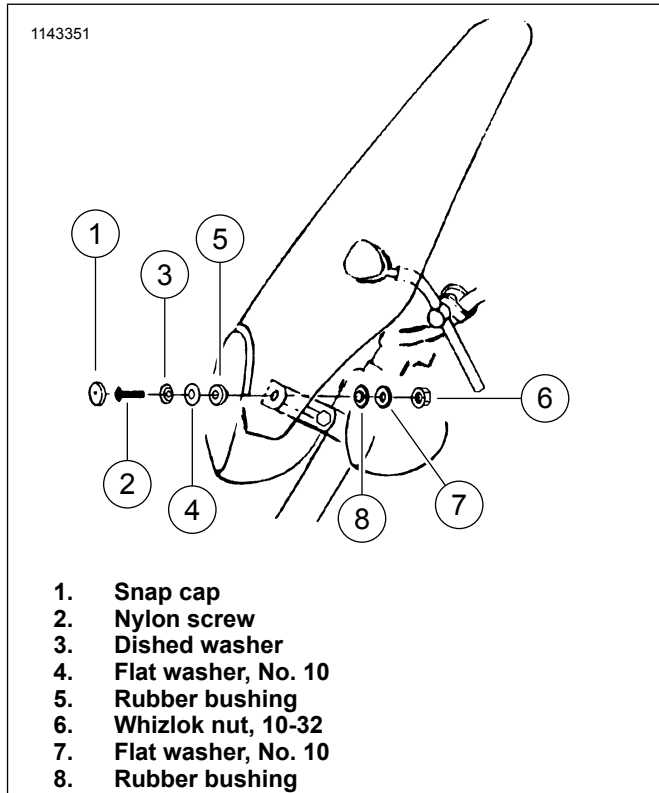

Figure 4. Mount Shield
9. See Figure 4. Slip upright into eyebolt "eyes" and tighten the nuts on the eyebolts until snug.
10. Assemble the lower mounts in the following order (front to rear): nylon screw (2), dished washer (3), flat washer (4), rubber bushing (5), windshield, rubber bushing (8), flat washer (7), angle bracket, whizlok nut (6).
13. Install snap caps (1) over nylon screws (2).